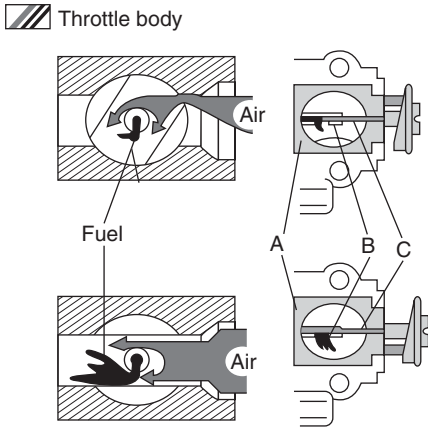

FIG. 4-25. Barrel-valve carburetor operation.
Figure 4-25 illustrates how fuel and air are metered. The obstruction presented by the barrel creates negative pressure at the discharge nozzle. At low speeds, the barrel (A) and needle (B) restrict air and fuel flow. As the barrel rotates open, it cams upward and lifts the needle higher in the discharge nozzle (C). Retracting the tapered needle increases the effective area of the nozzle and more fuel flows. At higher speeds, the cross-drilled passage in the barrel comes into better alignment with the axis of the carburetor bore. Thus, air delivery keeps pace with fuel delivery.